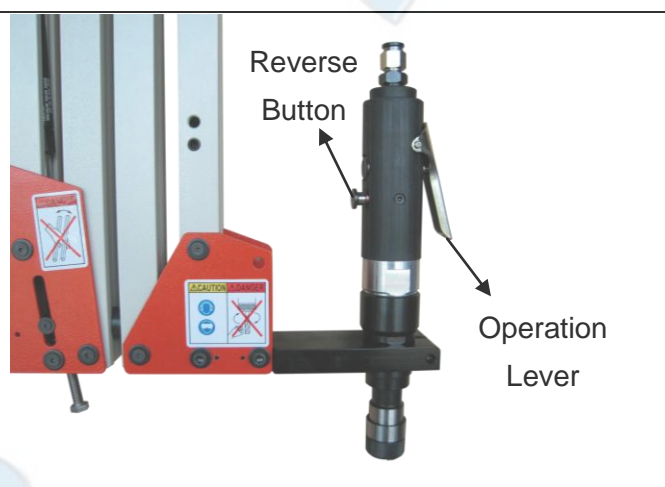

Figure 8-2
- C. After tapping to the required depth, press the reverse button while also depressing the operating lever. The tap will reverse out from the hole (see Figure 8-2).